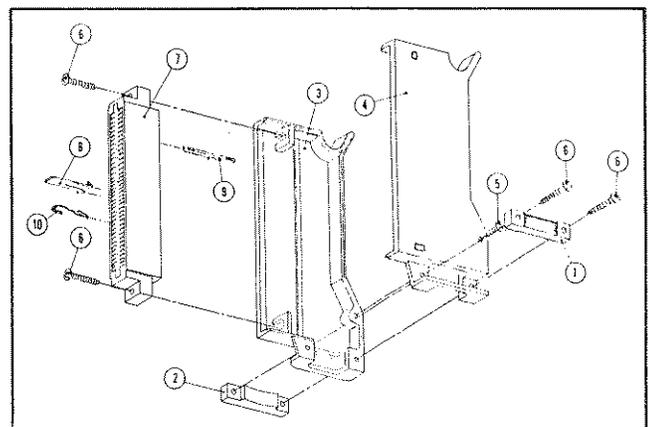
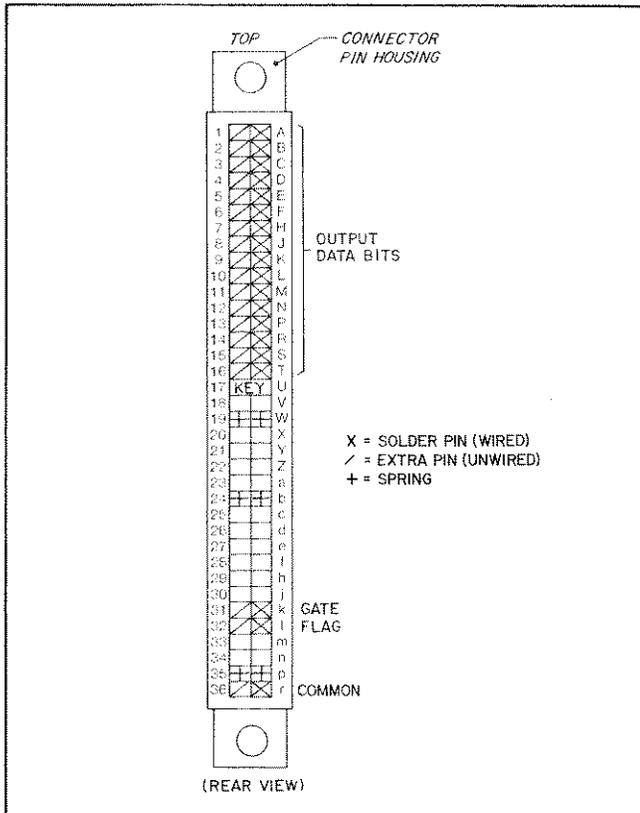

Figure 2-7. I/O Card Edge Connector Assy
Figure 2-8. Sample Pin Configuration for a Digital Output Card
- (4) Card subaddresses (if applicable)
- (5) Data format parameters: data type, LSB value, number of bits.
**2-27 I/O Card Edge Connector (Figure 2-7).** Edge Connector Assemblies interface I/O cards with each other or with external devices. One Edge Connector Assembly, is shipped with each I/O card. Order Model 14703A when extra connectors are required. Each connector assembly consists of the following items:
The encircled numbers key the items to Figure 2-7.
**Assembly Procedure (Figures 2-7 and 2-8):**
- a. Insert the required number of solder pins ⑨ to be wired into connector pin housing ⑦. Pins are inserted into the applicable pin slots from the rear of the connector housing. Figure 2-8 illustrates a sample pin configuration for a digital output card.
- c. To balance the connector insert extra solder pins ⑨ in the slots next to the wired solder pins (see Figure 2-8).
- d. Insert springs ⑩ into connector pin housing. Springs are inserted from front of connector assembly (see Figure 2-7). A pair of springs is inserted into adjacent connector slots in three places on the connector (see Figure 2-8).
- e. Install key ⑧ (Figure 2-7) in applicable slot. Connector key is installed from front of housing assembly.
- f. Place the hood assemblies ③ and ④ around the connector pin housing ⑦. Ensure that the bottom (high numbered pin slots) of the housing is at the bottom (cable entrance) of the hood assemblies.
- g. Route cable wires through cable entrance and then fasten the left and right hood assemblies together by inserting and tightening screw ⑤.
- h. Fasten connector pin housing ⑦ to the assembled hoods ③ and ④ using 2 screws ⑥.
- i. Insert strain relief ① and proper sized cable clamp ② in the cable entrance and fasten with 2 screws ⑥.